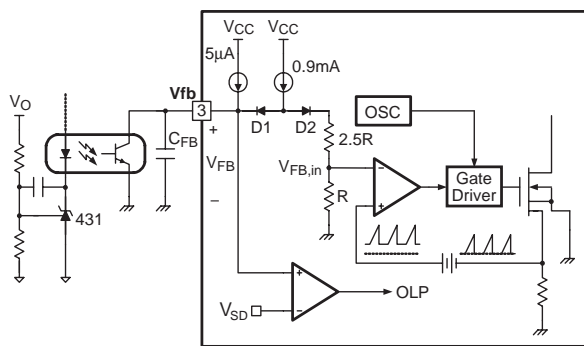

Figure 5. Pulse Width Modulation (PWM) Circuit
2. Feedback Control: The 700V FPS series employs current mode control, as shown in Figure 5. An optocoupler (such as the H11A817A) and shunt regulator (such as the KA431) are typically used to implement the feedback network. Comparing the feedback voltage with the voltage across the R_{sense} resistor of Sense FET plus an offset voltage makes it possible to control the switching duty cycle. When the KA431 reference pin voltage exceeds the internal reference voltage of 2.5V, the optocoupler LED current increases, the feedback voltage V_{fb} is pulled down and thereby reduces the duty cycle. This typically happens when the input voltage increases or the output load decreases.
4.3 Over Voltage Protection (OVP): In the event of a malfunction in the secondary side feedback circuit, or an open feedback loop caused by a soldering defect, the current through the opto coupler transistor becomes almost zero (refer to Figure 5). Then, V_{FB} climbs up in a similar manner to the overload situation, forcing the pre-set maximum current to be supplied to the SMPS until the overload protection is activated. Because excess energy is provided to the output, the output voltage may exceed the rated voltage before the overload protection is activated, resulting in the breakdown of the devices in the secondary side. In order to prevent this situation, an Over Voltage Protection (OVP) circuit is employed. In general, V_{CC} is proportional to the output voltage and the FPS uses V_{CC} instead of directly monitoring the output voltage. If V_{CC} exceeds 19V, OVP circuit is activated resulting in termination of the switching operation. In order to avoid undesired activation of OVP during normal operation, V_{CC} should be designed to be below 19V.